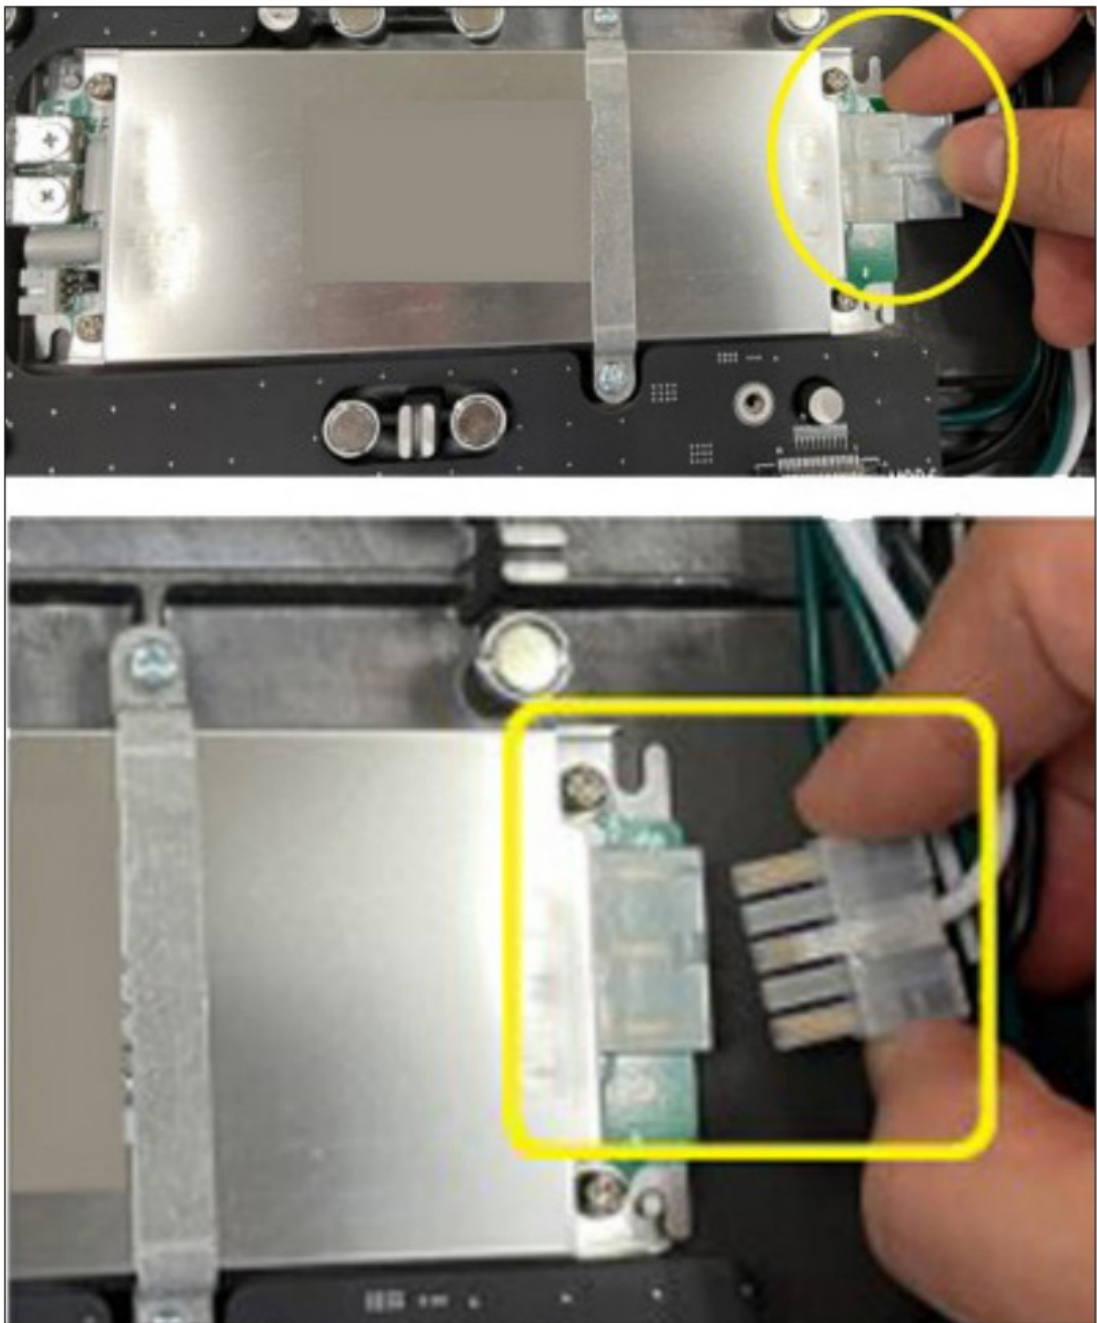

Figure 8: Remove the AC Power Connector
2. Remove the AC power connector on the power supply. Refer to Figure 8.